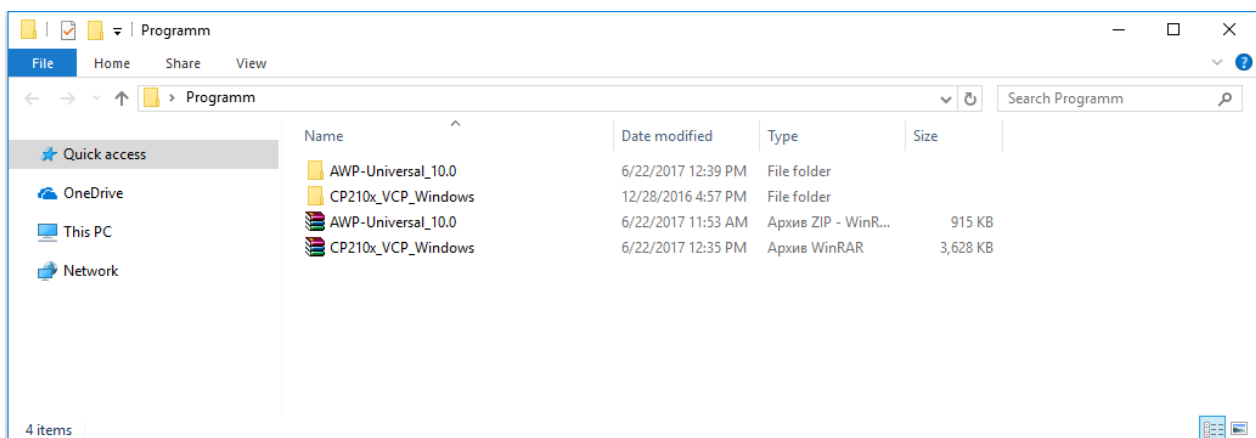

Figure 2.51 – Downloaded software
2. Unpack the files getting two folders (Figure 2.51): driver and program.